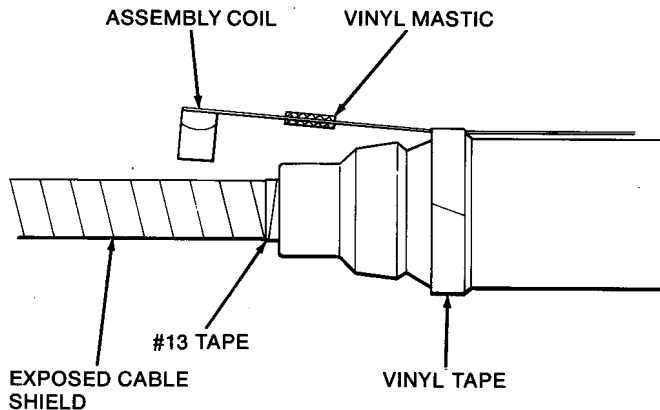

Figure 5
1. Position shield continuity assembly strap over splice body and hold it in place with a wrap or two of vinyl tape at ends of splice body (Figure 5).
- b. After removing liner, place one pad under strap, mastic side toward strap and centered over splice body end cap (Figure 5). Place a second pad over the strap and the first pad and press together, mastic to mastic, forming a sandwich. (This will be overwrapped with #13 Tape.)